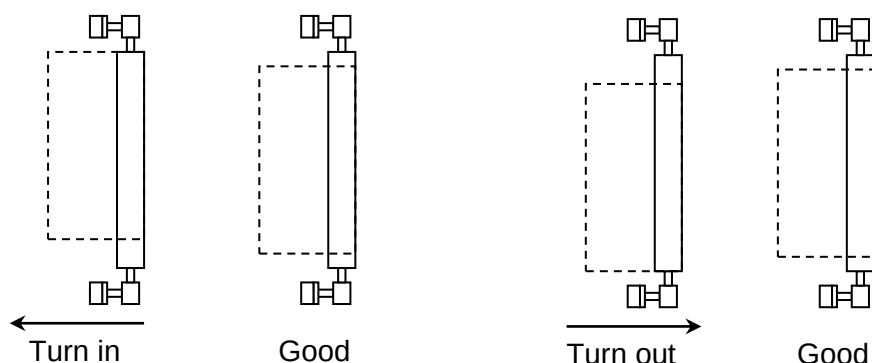

Figure 3.1.1
- The correct run of the belts. (the correct run of the belt is when the belt is running completely on the rolls). When the belt crosses the ends of the rolls the run needs to be corrected by a skilled operator (*Figure 3.1.1*).